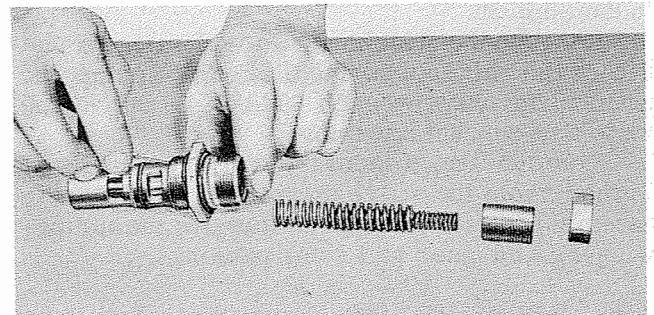

Figure 7-31. Dislodging Oil Pressure Relief Valve Retaining Circling
- b. Dislodge the circling from the groove on the ID of the valve body by inserting a suitable piece of drill rod through one of the three holes in the valve body. See figure 7-31. Remove the circling with long-nose pliers. Remove the valve from the valve body.